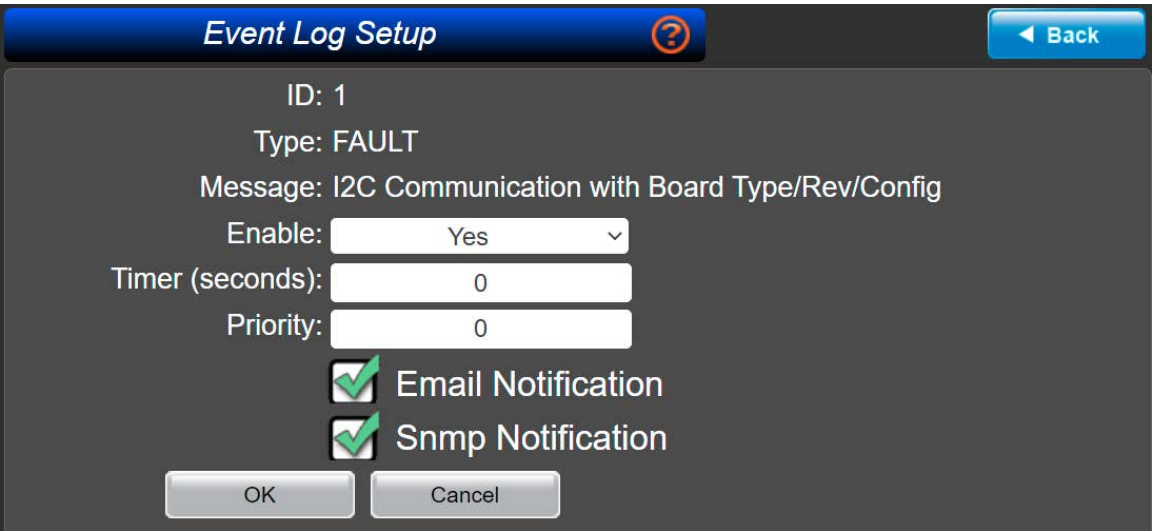

Figure 4-47 Event Log Edit
- Click on the *pencil* icon located on the right to open the sub-menu **Edit** screen Figure 4-47.
- Section 4.3.7.1 provides the information for submenu Edit screen in Figure 4-47.